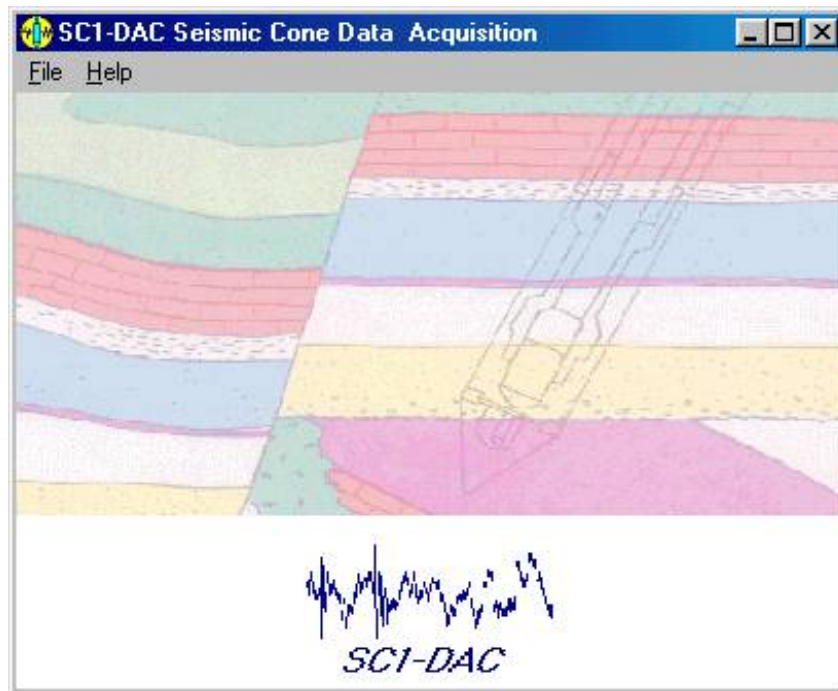

Figure 1. Main menu in *SCI-DAC*.
SCI-DAC is a Windows® program which facilitates the data acquisition of uniaxial seismic cone (SC) time series data. The main menu of *SCI-DAC* is illustrated in Figure 1. The main menu in Figure 1 displays the two options of File and Help.